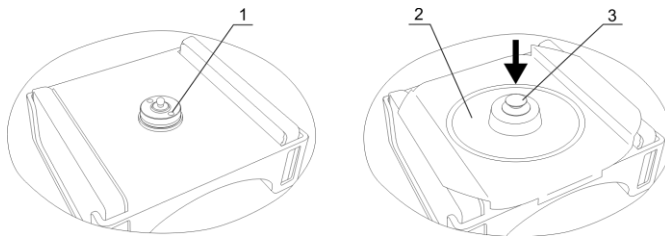

Fig. 1. Rotor replacement
- unscrew the fixation nut (Fig. 1/1) counterclockwise using the wrench included in standard set and remove the nut.
- place the rotor and secure it tightly with the fixation nut, placing the nut with the key holes up (Fig.1/1) and turning it clockwise by the included wrench.
- place the safety cover (Fig. 1/2) on the rotor by pressing the cover clip (Fig. 1/3) down;